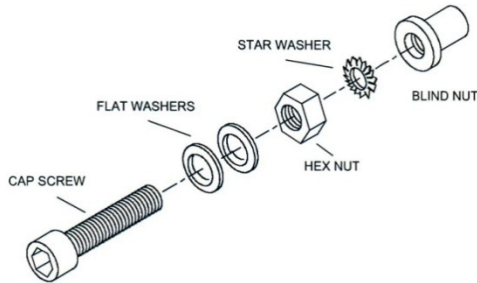
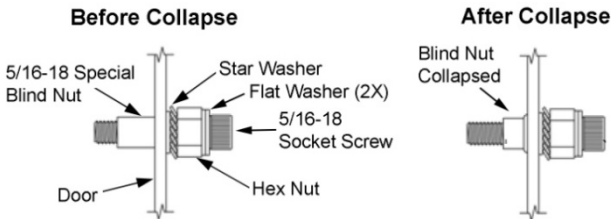

Figure 3. Blind Nut Components
Figure 4. Special Blind Nut Installation
NOTE: Figure 3, "Blind Nut Components," and Figure 4, "Special Blind Nut Installation," provide illustration for the following steps.
2. THREAD the additional hardware into the 5/16-18 cap screw, as shown in Figure 3.
5. THREAD the additional hardware onto each 1/4-20 cap screw, as shown in Figure 3.